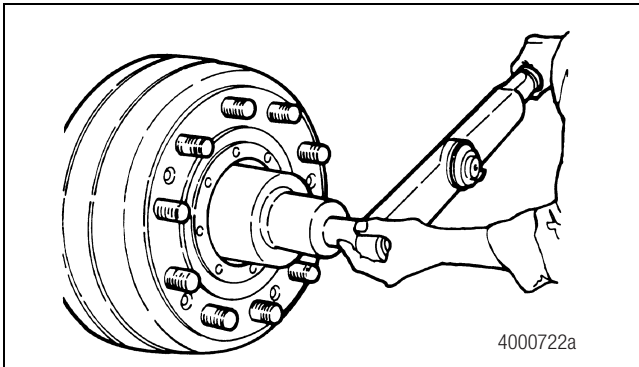

Figure 4.3
9. Remove the outer adjusting nut, lockwasher and inner adjusting nut from the spindle. Use the correct size wrench socket to remove the adjusting nut. Figure 4.3.